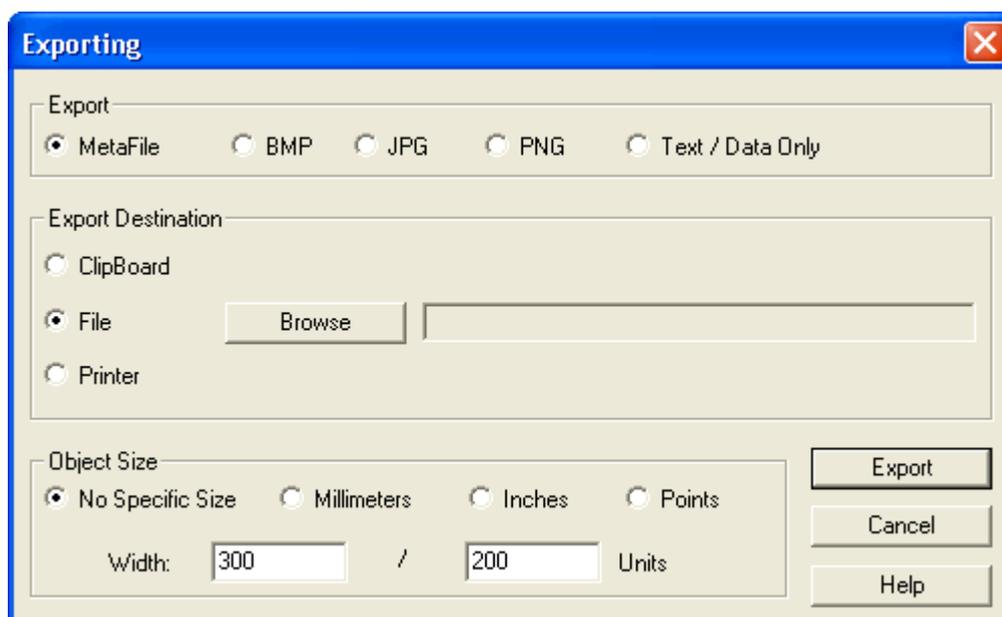

Figure 31 Export Window
1. On the graph toolbar, click the **EXPORT** icon. The Exporting Window opens (Figure 31).